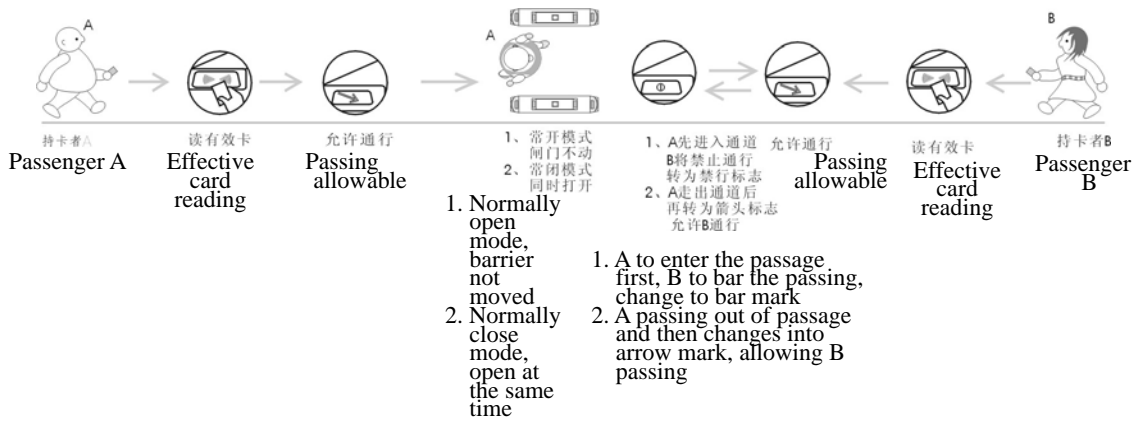

Fig. 12
- If the person carrying out the adjustment does not pass after reading the card at the specified time of the system, the system will cancel the passing and return back to the initial mode. It is required to read the card again if the passenger wants to pass through. The process is given in Fig.12 and 13 below.